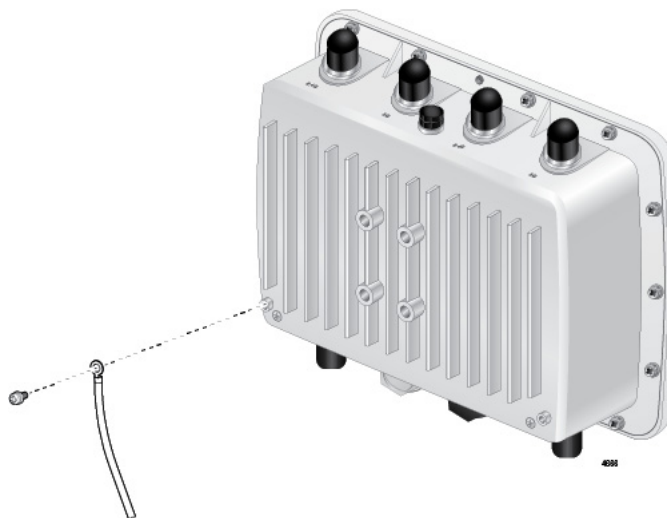

Figure 4. Aligning the Access Point with Ground Cable
1. Align the ground cable hole on the access point with the ring terminal of the ground cable. See Figure 4.